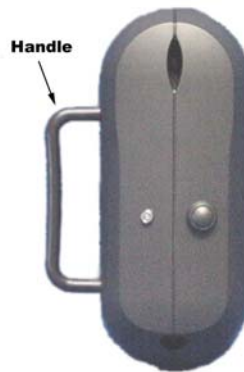

Figure 2-5 – MIRLT Handle
- ✓ **Always hold the MIRLT by the handle not by the housing (Figure 2-5).**